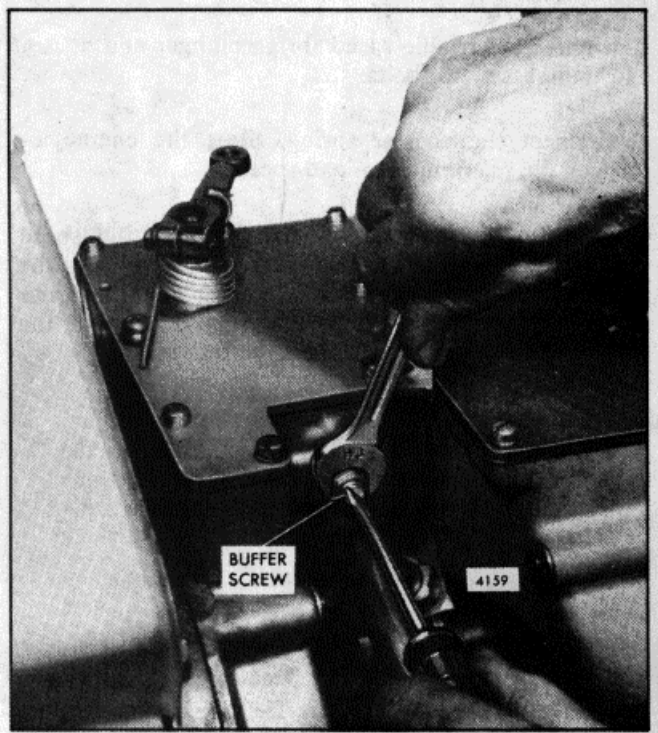

Fig. 13. - Adjusting Buffer Screw
1. With the engine running at normal operating temperature, turn the buffer screw *in* so it contacts the differential lever as lightly as possible and still eliminates engine roll (Fig. 13).